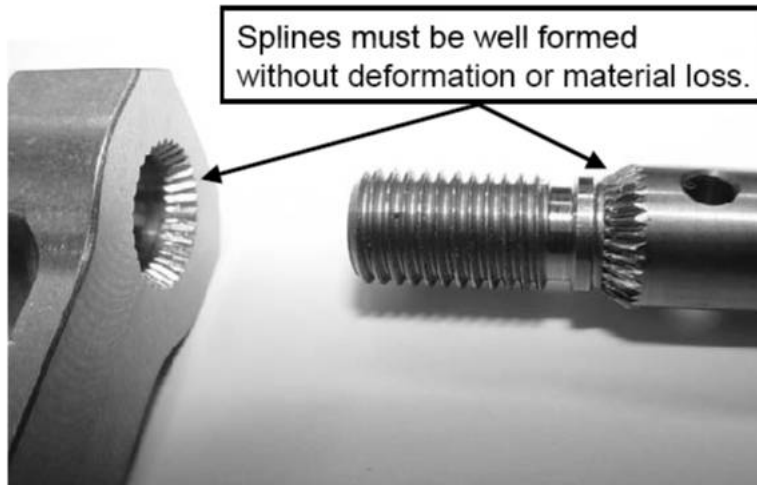

Figure 2. New Stainless Steel Control Lever and Shaft
1. Inspect the component's shaft and the NEW stainless steel control lever to ensure no damaged or stripped threads exist and that the splines are well formed and without deformation or material loss (See Figure 2).